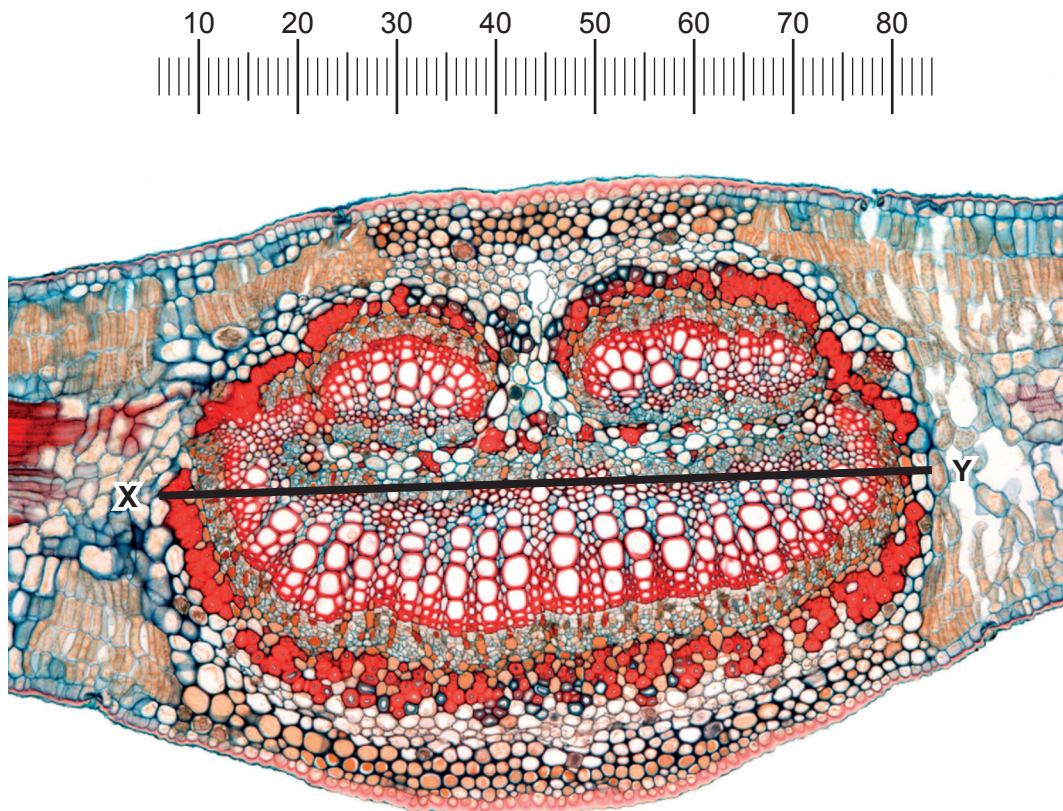
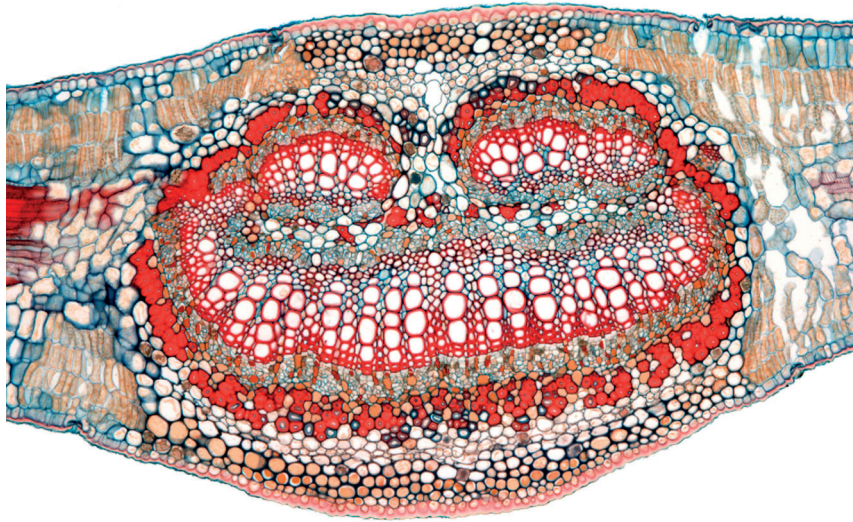

Fig. 2.2
Fig. 2.3
- (b) Fig. 2.2 is a photomicrograph of a stained transverse section through the midrib of a leaf of a different type of plant.
An eyepiece graticule scale is shown on Fig. 2.2.
- (i) Use the calibration of the eyepiece graticule on Fig. 2.2 to calculate the actual width of the vascular tissue, shown by line X–Y.
- (c) Fig. 2.3 is the same photomicrograph as in Fig. 2.2 but without line X–Y and the eyepiece graticule scale.
Prepare an appropriate table so that it is suitable for you to record the observable differences between the midrib of the leaf on L1 and Fig. 2.3.